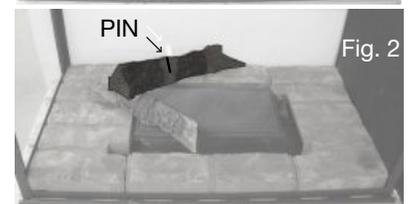

Fig. 2
3. Place log #2 onto the pin located in the log #1, it should rest in the middle of the left side hearth pad as shown in Figure 2. Place one pin into the middle of log #2, as shown in Figure 2.